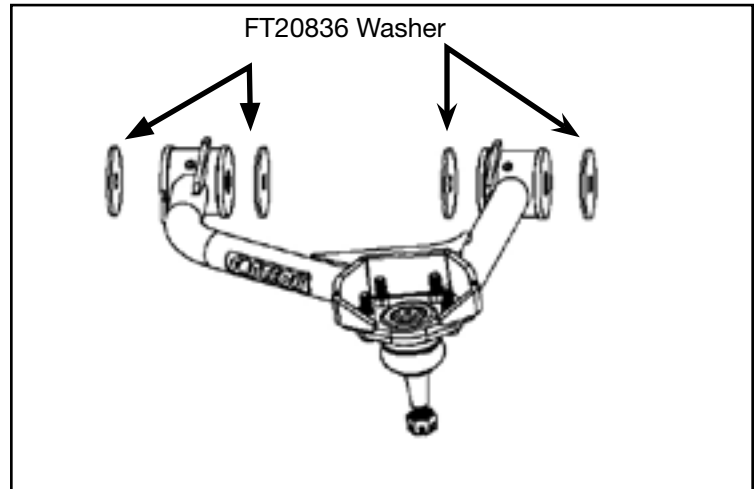

FIGURE 35 - STEP 26
26. Install the FT20833 (Driver) & FT20834 (Pass) upper control arms using the factory bolts. **NOTE: When installing the arms, install a FT20836 (washer) on both sides of the bushings. Do not tighten at this time. Final locktite/ torque procedure will be done at step 32. SEE FIGURE 35**